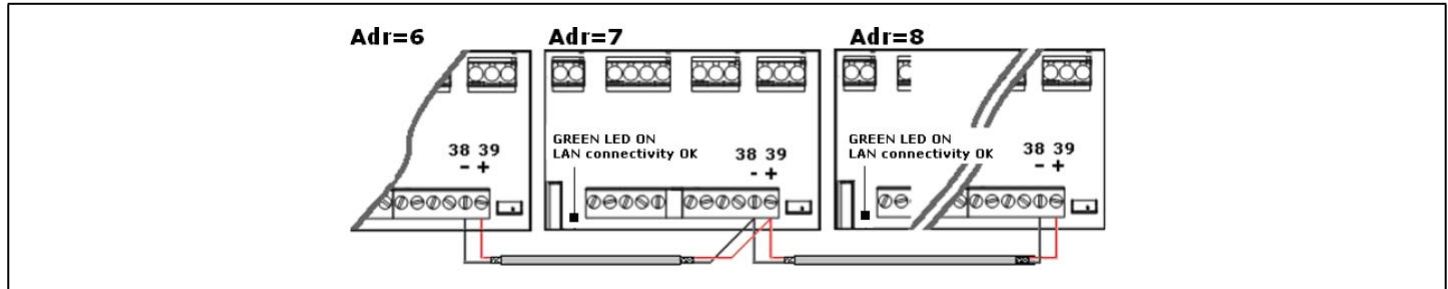

Figure 5-3 - LAN Connection
1. Connect a shielded cable between terminals **38 [-]** and **39 [+]** for a **maximum of eight (8) sections**.
2. The **Adr** parameter is the number that identifies each electronic board. **Address duplication is not permitted**; in this case, synchronized defrost and the communication with the monitoring system are not guaranteed (the **Adr** is also the MODBUS address). See **Figure 5-3** for an example of a properly configured LAN connection: